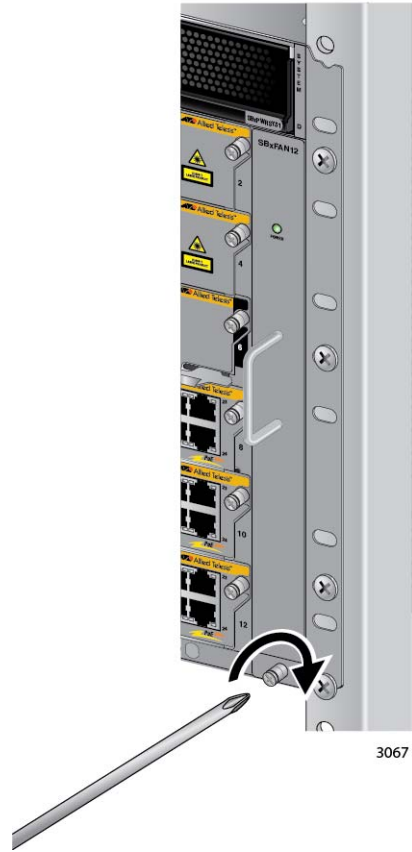

Figure 151. Tightening the Screw on the AT-SBx81CFC400 Fan Module
3. With a #2 Phillips-head screwdriver, tighten the screw at the base of the module to secure the module to the chassis. Refer to Figure 151 on page 241.